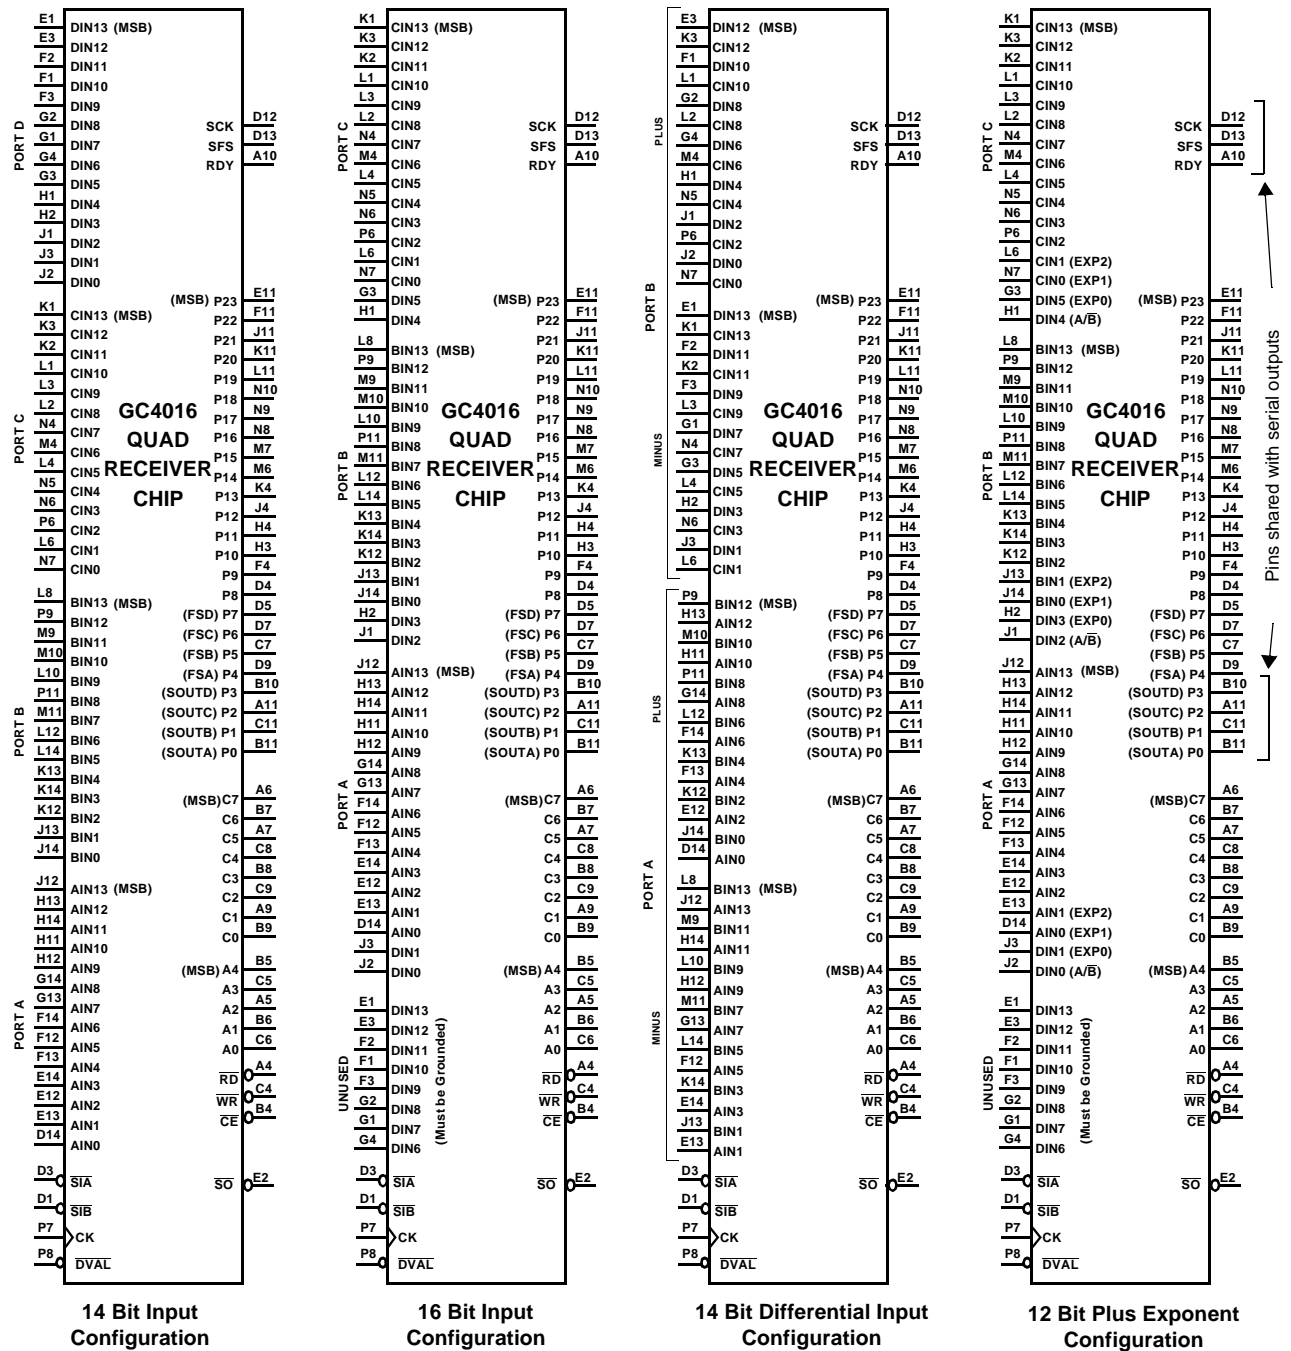

Figure 18. GC4016 Pin Assignments
| A,B,C, DIN | INPUT DATA, Active high input pins The 14 bit 2's complement input data for the four channels. The inputs are clocked into the chip on the rising edge of the clock (CK). These pins can be configured to support three 16 bit ports, two 14 bit differential ports, three 12 bit + 3 bit exponent ports, or three 12 bit + 3 bit exponent + A/B selection ports. See Section 3.2 and Figure 18. |